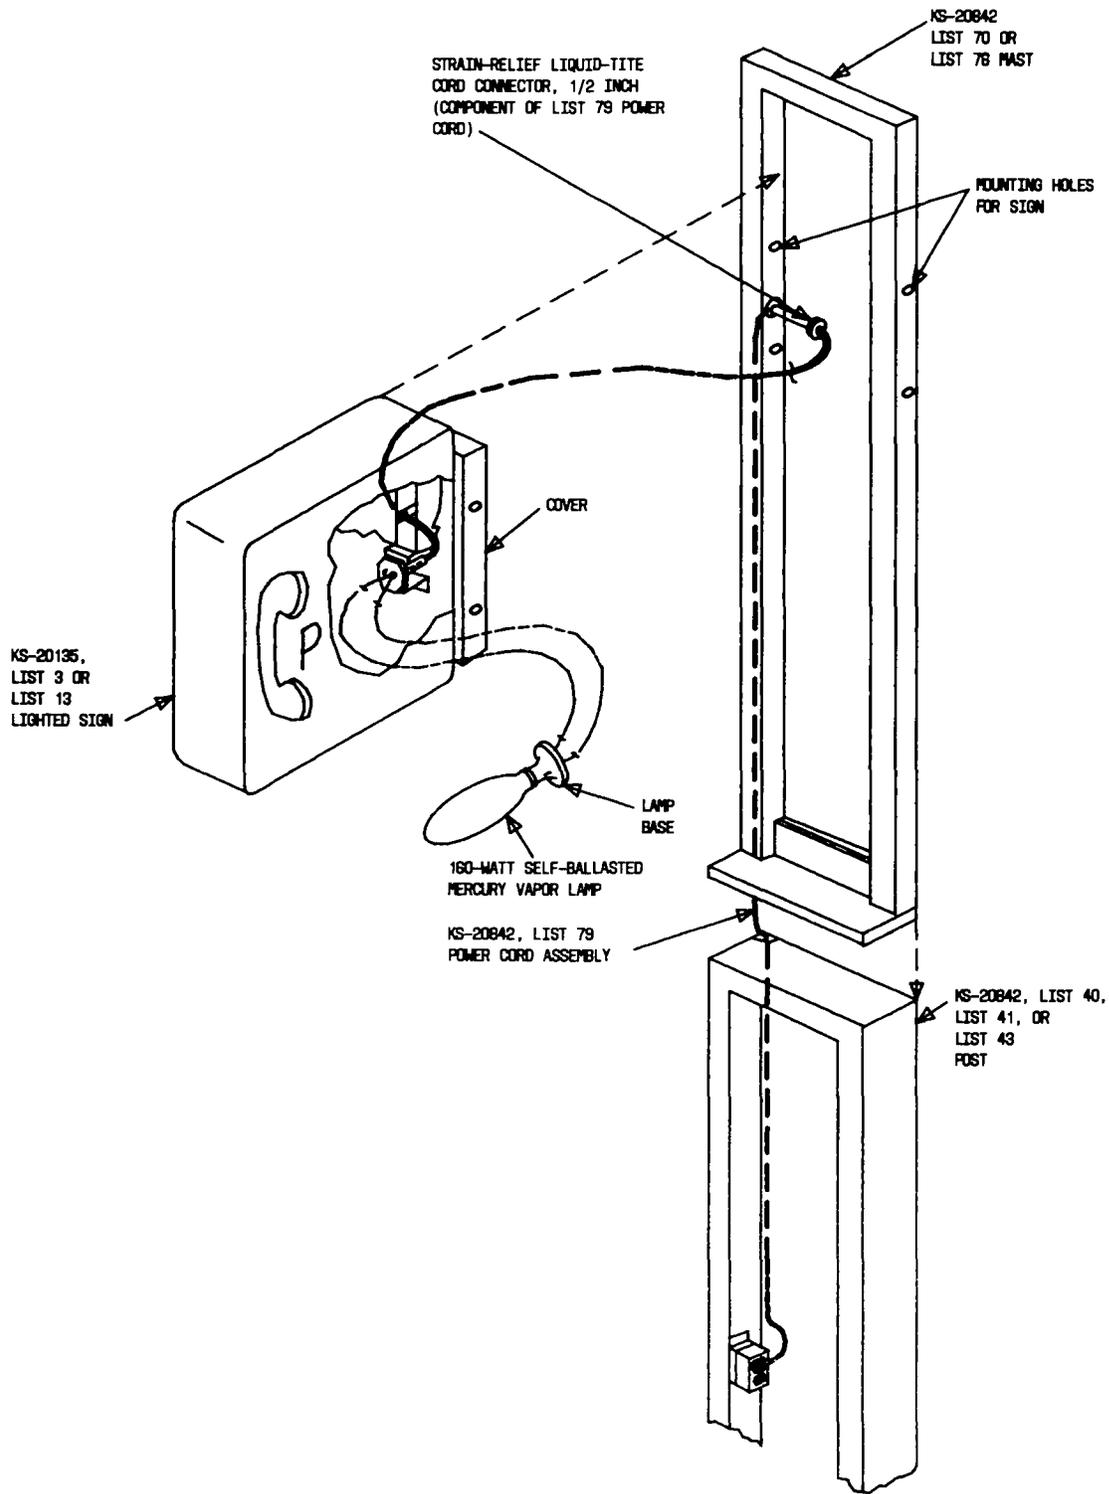

Fig. 11—Installation of KS-20135 Sign on List 70 or 76 Mast Assembly and List 40, 41, or 43 Post
3.12 KS-20135, List 3 or List 13 Sign (Fig. 11 or 12): This sign can be installed on a KS-20842, List 70, List 76, List 170, or List 176 mast assembly as follows: